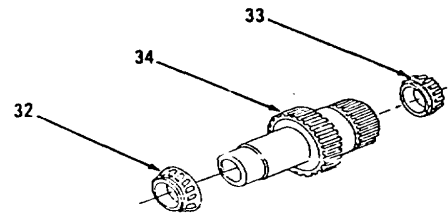
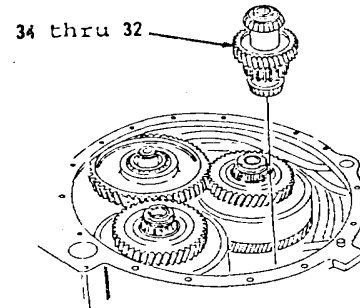

Figure 14-8.
Figure 14-7.
45. Heat roller bearings (33 and 32, Figure 14-8) in engine oil SAE 30 to temperature of 275 degrees F.
46. Install roller bearings (33 and 32) on gear (34).
47. Install items 34 thru 32 as an assembly (Figure 14-7).